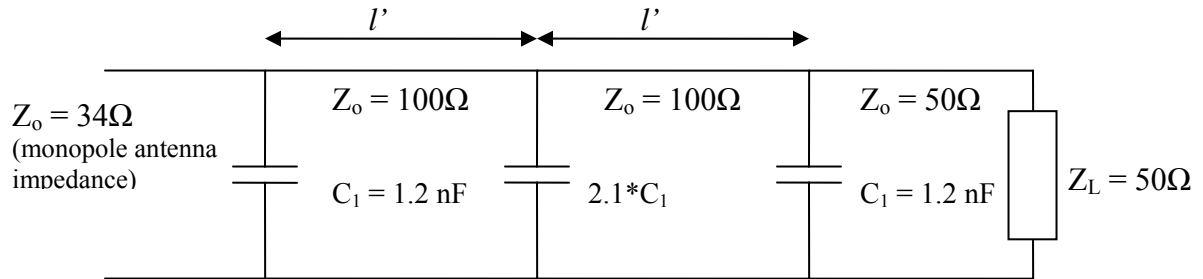

Fig. 2. A two-section filter.
- Repeat Step 2 using three capacitances instead of two (i.e. a two-section factor filter) instead of a single-section filter. The circuit layout for this two-section filter is given in Fig. 2. Determine the band for which $SWR \leq 1.5$.